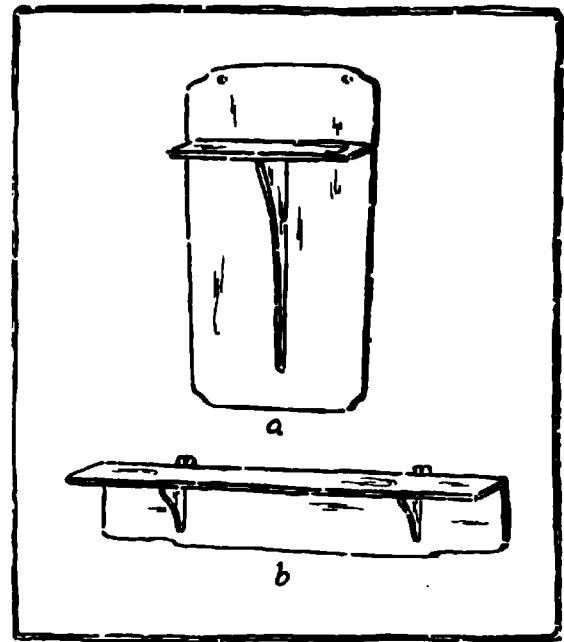

Fig. 276. Wall Brackets, Double-Hung: *a*. Single Support. *b*. Double Support.
*Wall Brackets.* (1) There are three essential parts, the shelf, the support or supports, and the back: the shelf to hold the articles, the support to hold up the shelf, and the back to hold all together, Fig. 276, *a*. The grain of the wood in the shelf should run left and right, not forward and back, because thus it rests on the support in such a way as not to break easily, and it also acts as a stiffener for the back. In case the back extends above the shelf, as in Fig. 276, *a*, the shelf can be secured firmly to the back, since there is side grain in which to drive nails or screws. As to the direction of the grain of the support and the back, this should run in the direction of the largest dimension of each. Where the back is long horizontally, for security in hanging, it is better to have two supports.10